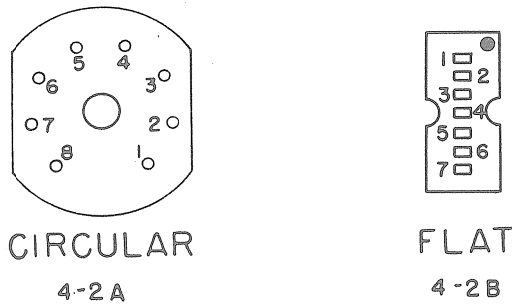
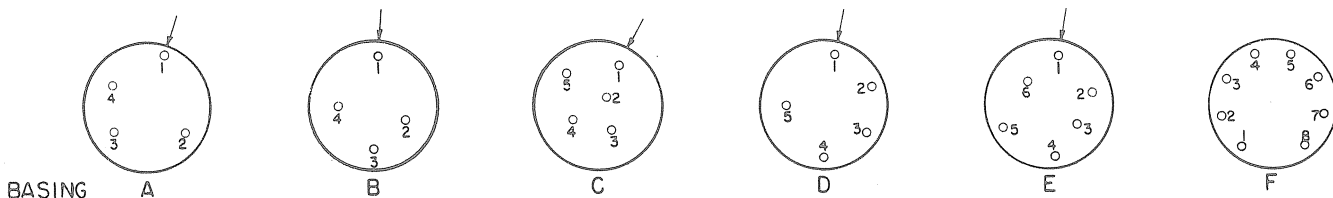

Figure 4-2.—Top View of Socket X-110 and X-111.
Figure 4-3. Basing Sub-Miniature Tubes (Bottom View)
**(26) TESTING SUB-MINIATURE TUBES.**
- (a) Sub-miniature tubes of the round type having wire leads instead of pins are tested in the TV-3C/U by means of a special socket X-110, (See Figure 4-1). This socket has 8 contacts, numbers for which are shown by Figure 4-2. There are several basing arrangements used for these tubes as illustrated by Figure 4-3. The numbered leads of the tubes are inserted in the corresponding contacts of the Socket X-110. A good way to handle the leads is to grasp each lead about 1/8" from its end with the tips of a pair of long nose pliers, and insert the leads in their proper socket contacts. Sub-miniature type tubes are identified on the Roll Chart and in Table 4-3 by a star beside the type number. The applicable basing for the various round types is indicated under the column headed NOTATIONS. The basing designation letter refers to the diagram shown in Figure 4-3.
- (b) Sub-miniature tubes of the flat or inline contact type having either pins or leads are tested in the flat socket (X-111 in Figure 4-1) also illustrated by Figure 4-2. The tube pins or leads must be inserted with the dot on the base of the tube directly in line with the small molded dot on the socket.
- (27) ADAPTERS: Due to special bases or unusual contact arrangement, tube types 829B, 832A and 2C39 cannot be tested directly in the regular test sockets of the TV-3C/U equipment. Tube Socket Adapters E-105 and E-106 are provided for use in testing these tubes.
- (28) SPECIAL NOTES. Power line voltage varies in different localities and may also vary somewhat aboard ship. While a national survey indicates that the average voltage for the U.S.A. is about 117 volts, it does not mean that every locality maintains a constant voltage at that level. Occasionally there is the complaint that a used tube will test GOOD, but will not work in the equipment; but when a NEW tube is substituted, the equipment will operate correctly. In a case of this kind check the line voltage being supplied to the
★ For Subminiature tube basing diagrams see Fig. 4-3 of instructions.